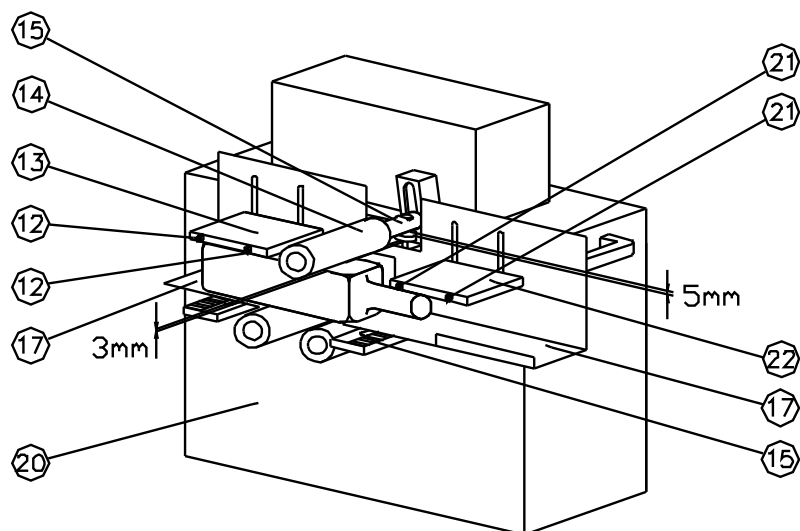

fig. 16
- Put the bottle like in fig. 16, and so on the two sponge rollers. Loose the pivot 15 and position the roller 14 at about **3 mm** from the bottle; fix again the pivot 15.